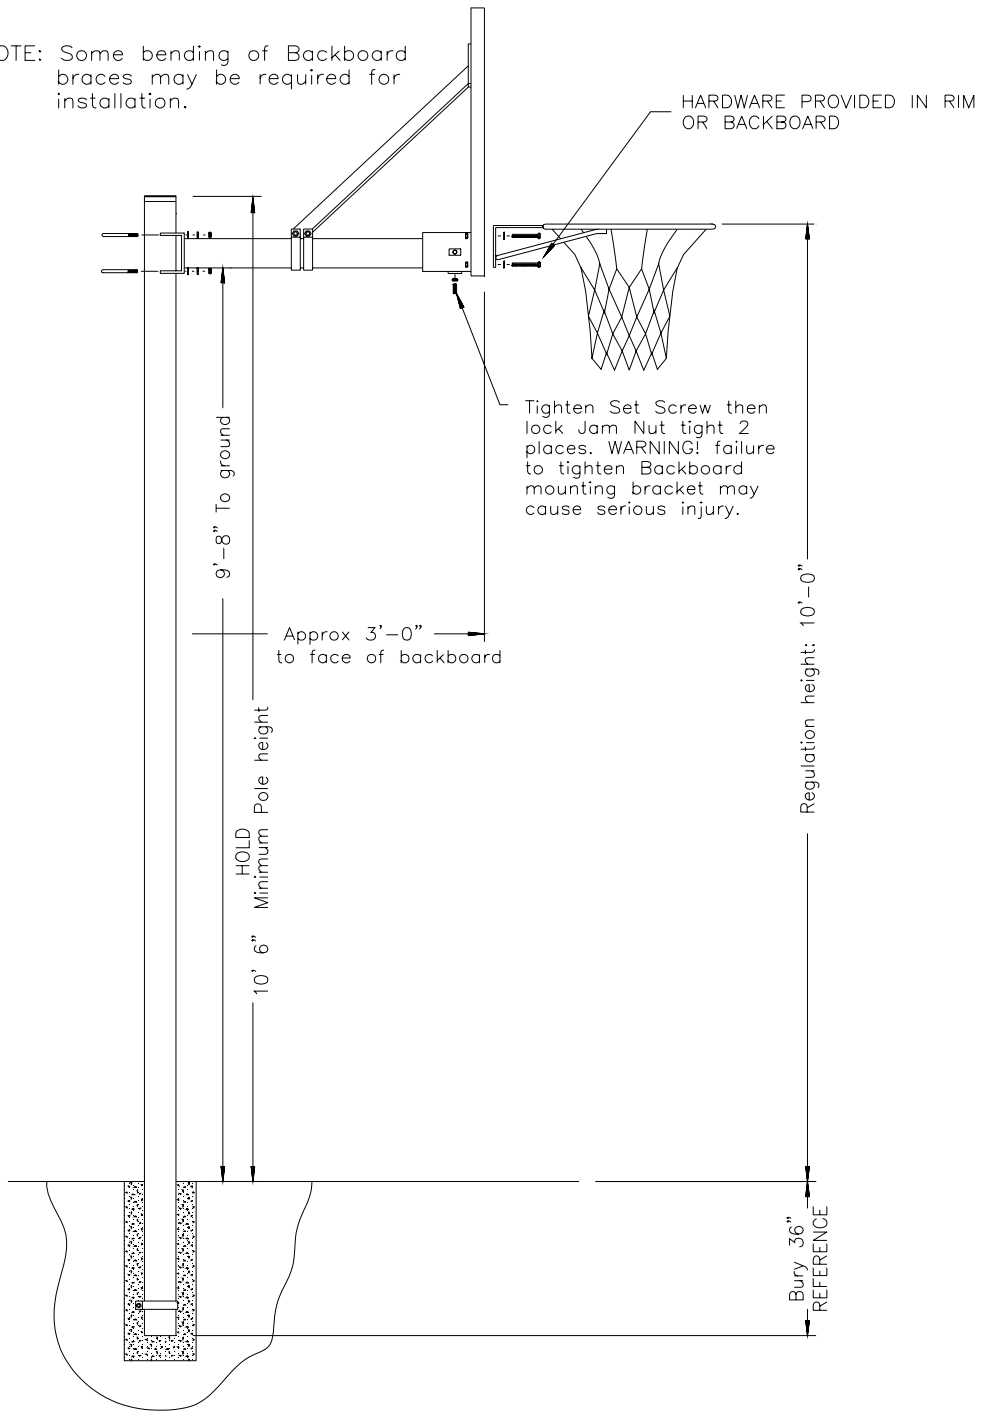

Figure 4
3. Mix concrete according to the directions on the bag. It is advantageous to have the mixture "wet". This will increase your working time and allow batches to mix in the hole. Pour the hole full to ground level. Attach band clamp to bottom end of pole and insert pole into concrete while vibrating concrete to allow it to surround the pole completely. The pole height from the ground should be 10' 6". (see **Figure 4**).
4. Clean excess concrete from pole. Level the pole in the hole and allow the footing to cure for seven (7) days. Only after the concrete has cured for seven days should you proceed.
5. Seven days have passed. Secure the Extension Arm to the pole at a distance of 9' 8" to the bottom of the arm (see **Figure 4**) to the playing surface with the 3-1/2" U-bolts (N), 3/8" Flat Washers (G), 3/8" Lock Washers (F), and 3/8" Hex Nuts (E).